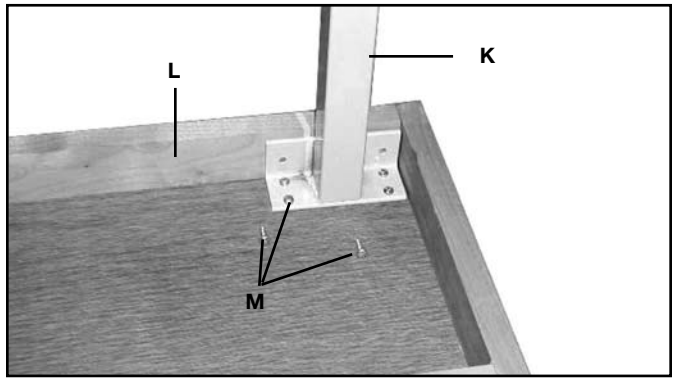

FIG. 19
10. Position table leg (K) to the closed in corner of the extension table (L), as shown in Fig. 19.
11. Attach the table leg (K) to the table board (L) with six 5/8" long wood screws (M). Repeat this process for the remaining leg.